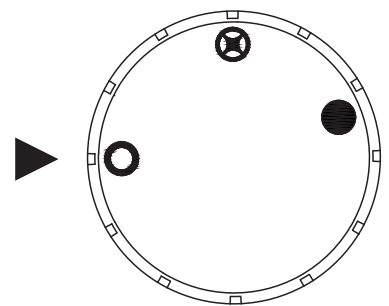

Fig. 22a
3. Push in gas control knob slightly and turn clockwise  to OFF "○" position. (See Fig. 22a)